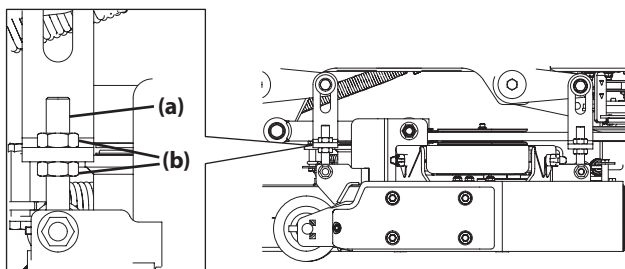

Figure 26
3. Adjust the eyebolt (a) at the left front of the deck so that the blade-to-ground height at the right outside blade tip matches that of the left outside blade tip. This is done by loosening the jam nuts (b) on the eyebolt (a) and tightening the upper jam nut (b) to raise the deck and loosening the jam nut (b) to lower the deck. The right outer blade tip height is fixed by the right, front eyebolt (a) so you must adjust the left outer tip to match it. See Figure 26.
3. Loosen the jam nuts (b) at the rear left and right of the deck eyebolts (a). Refer to Figure 26.